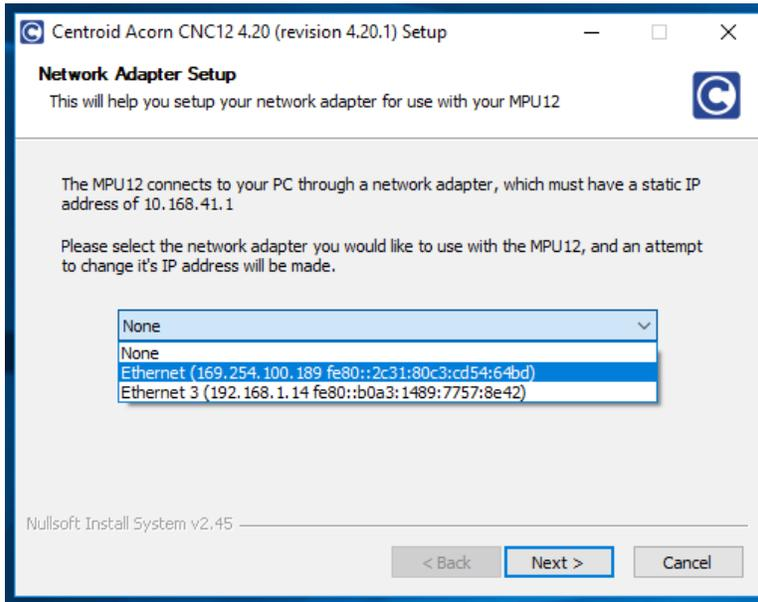

Figure 2: Selecting Network Adapter connected to Acorn
9. **Network Adapter Setup: (IMPORTANT: Acorn needs to be powered up and connected to the CNC PC via the provided Ethernet Cable). If there are two ethernet ports on the CNCPC the CNC12 installer will ask you which one are you using for the Acorn.** Click the down arrow to display the network adapters that are currently installed and select the network adapter that is connected to the Acorn as seen in Figure 2. Click **“Next”** to continue. When asked if you would like to change the IP address for the adapter selected, click **“yes”**.